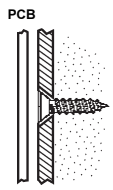

FIGURE 2
3. Mount the back cover using two screws and replace the PCB. Use ISO 7050 (ST3.5 x 22) or similar countersunk screws so that the screw head will not touch the PCB – see Figure 2. **Note: The upper screw is also used for back tamper. When the detector is removed from the wall, the screw causes the tamper release to break away from the back cover and the rear tamper switch is released.**